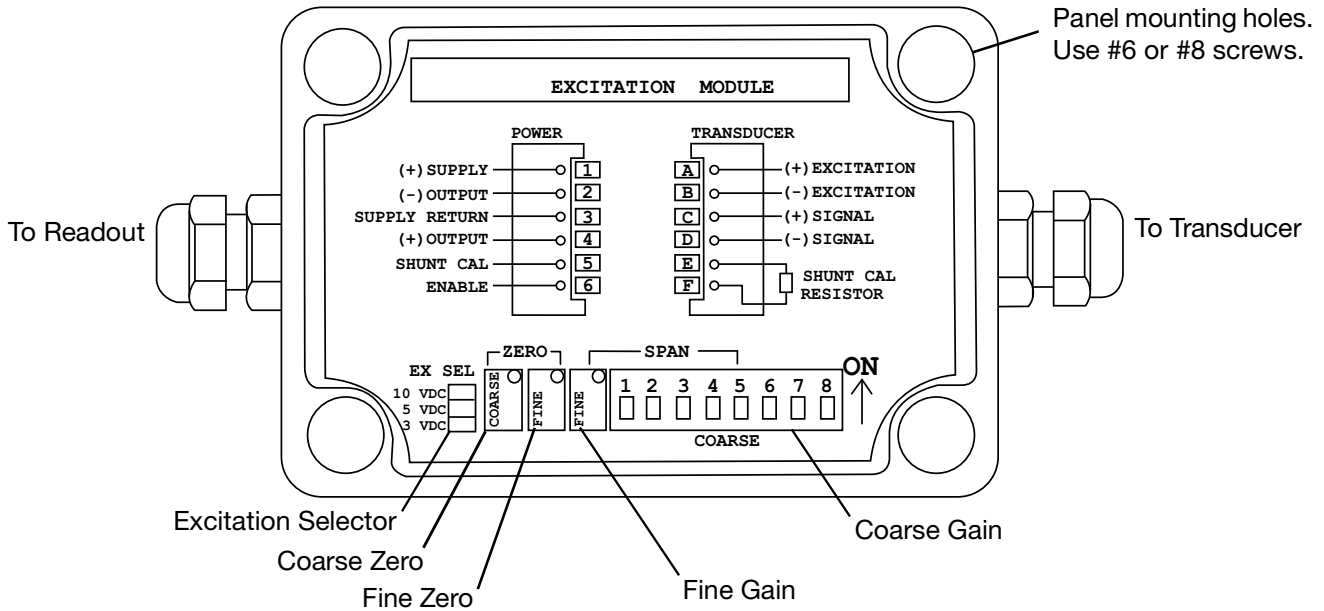

Fig. 67: Amplifier Settings
12. Remove cover from amplifier (116). See **Replace Amplifier**, page 92.
13. Ensure the EXCITATION SELECTOR jumper is in the middle position (5 Vdc). See FIG. 67 on page 93.